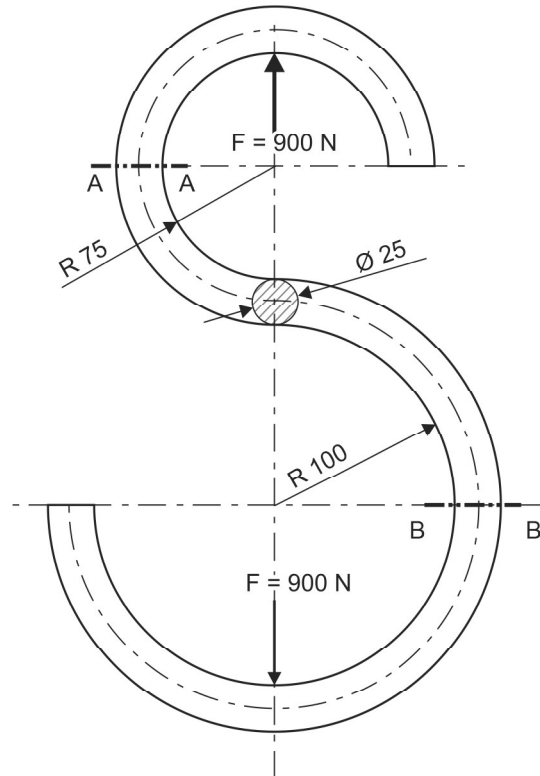

Fig. 1.16(a): Problem 12
12. An open S-link made from a rod of 25 mm is as shown in Fig. 1.16(a). Calculate the stresses at sections A – A and B – B.
- From Fig. 1.16(b), we have